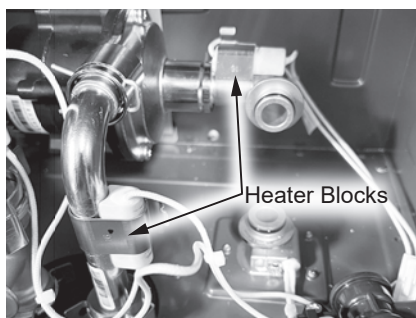

Figure 165 - Heater block locations
**21** Locate the two heater blocks attached to the pump inlet elbow and the pump outlet tube as shown in Figure 165. Remove brackets (size 16) securing heater blocks to pipe connections. Place brackets aside in a safe place for reinstallation. Route heater blocks and wiring inside water heater cabinet for ease of access to water pump.
**33** Locate the two (2) heater blocks and brackets (size 16) previously removed in **Step 21**. Secure heater blocks to pump inlet elbow and pump outlet tube as shown in Figure 165.